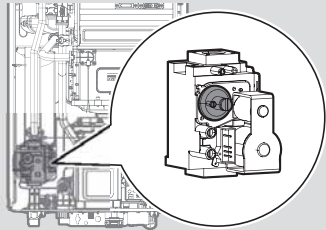

Figure 8. Set Screw Location
- c. Fully open several hot water fixtures and set the water heater to operate at 1-stage MIN mode (refer to page 8). Measure the CO₂ value at low fire. If the CO₂ value is not within 0.5% of the value listed in Table 2, the gas valve set screw will need to be adjusted. If adjustment is necessary, locate the set screw as shown in Figure 8. Using a ⁵/₃₂ in or 4 mm Allen wrench, turn the set screw no more than ¹/₄ turn clockwise to raise or counterclockwise to lower the CO₂ value.